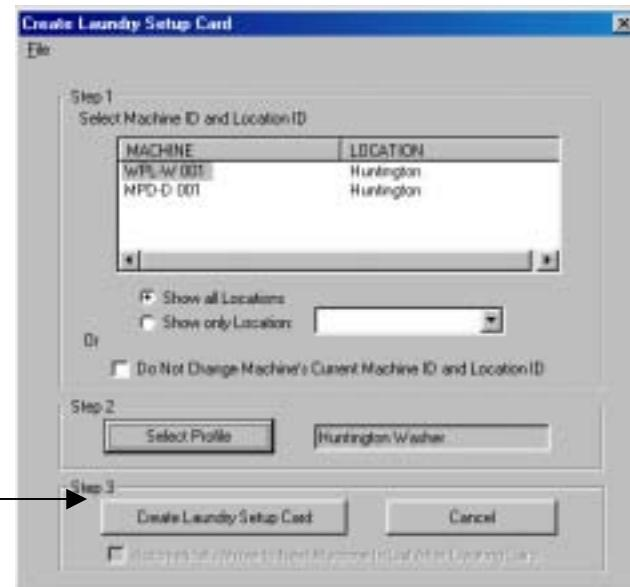

Figure 3.25 Creating the Laundry Setup Card
6. Click the **Create Laundry Setup Card** button (Figure 3.25).